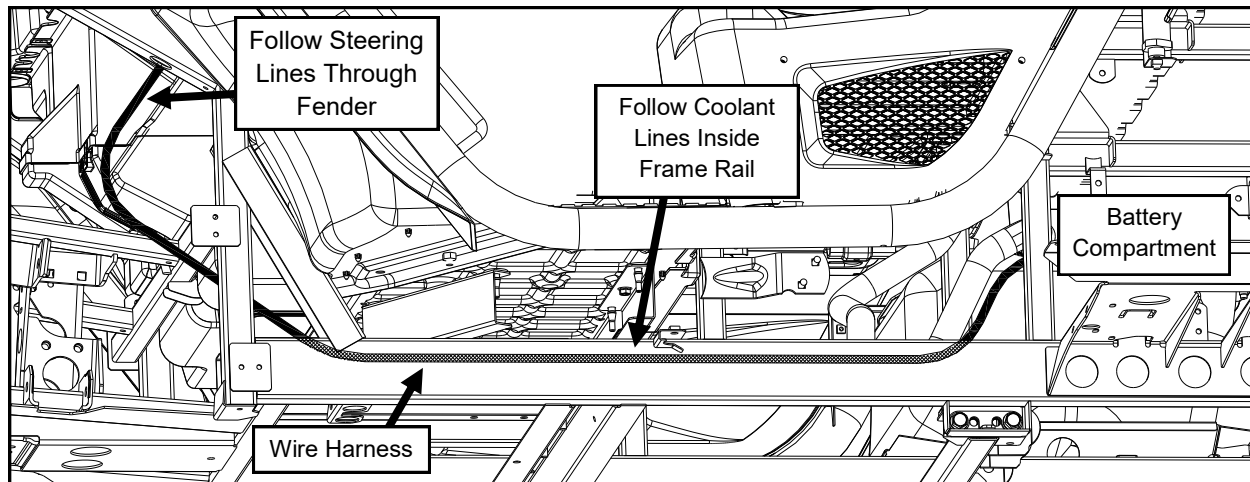

Fig. 5
5. Per figure 5 (RTV X900 shown), route the long portion of the harness with the small ring terminals forward from the battery area. The harness should follow the coolant lines forward above the skid pan and lie just inside the main frame rail. Route the wires upward into the hood area along the same route the power steering lines enter into the hood area. Once the wires are in the hood area, route over to the fuse block making sure that they cannot interfere with the emergency brake operation.